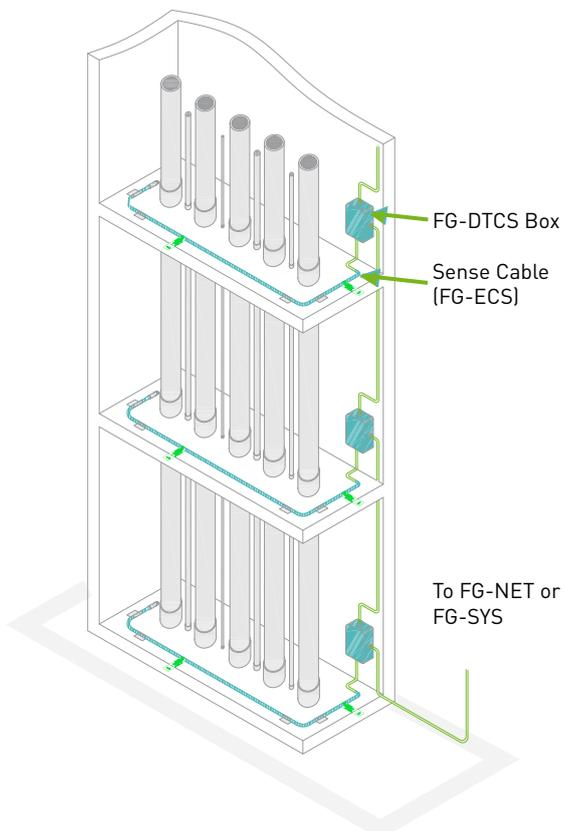

Figure 1.3.2: Layout with FG-DTCS
- The addressable sector box FG-DTCS allows connecting digital unit FG-SYS or FG-NET with analog sense cables and makes these cables addressable, in the meantime it has a unique advantage to cover vertical space (as illustrated in figure 1.3.2).